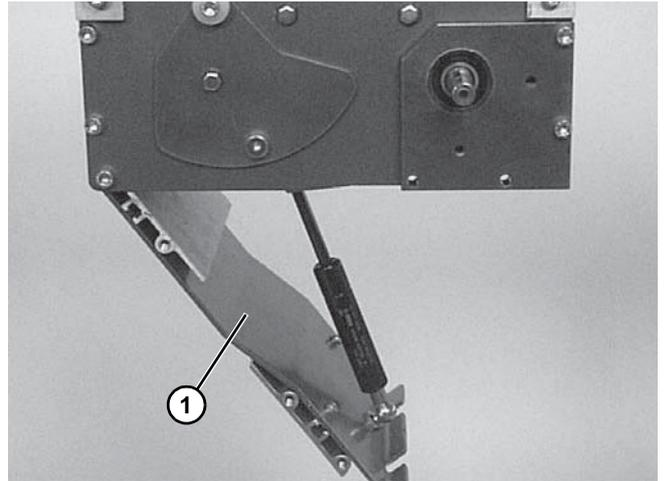

Figure 52
- Carefully close the drive module tension door (**Figure 52, item 1**). See WARNING.